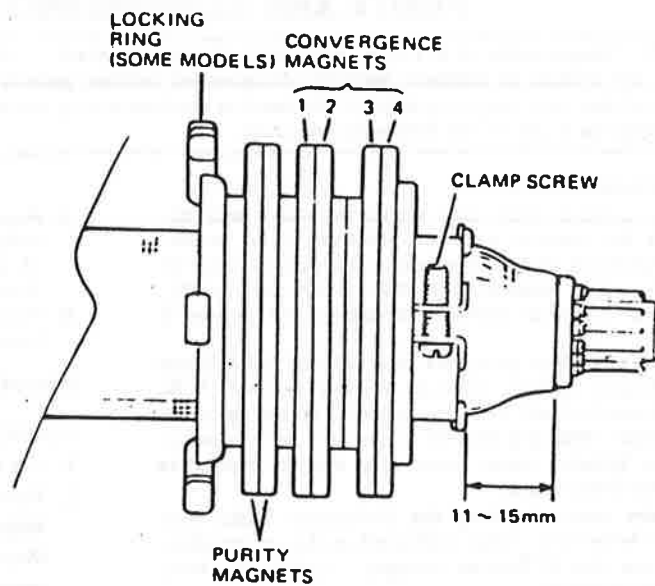

Figure 5 - CONVERGENCE AND PURITY MAGNETS ASSEMBLY POSITIONING
1. Place the picture tube face north or south and demagnetize the picture tube and receiver using an external degaussing coil. When replacing picture tube or deflection yoke, mount deflection yoke and purity-convergence magnets assembly properly, see figures 5 and 6.